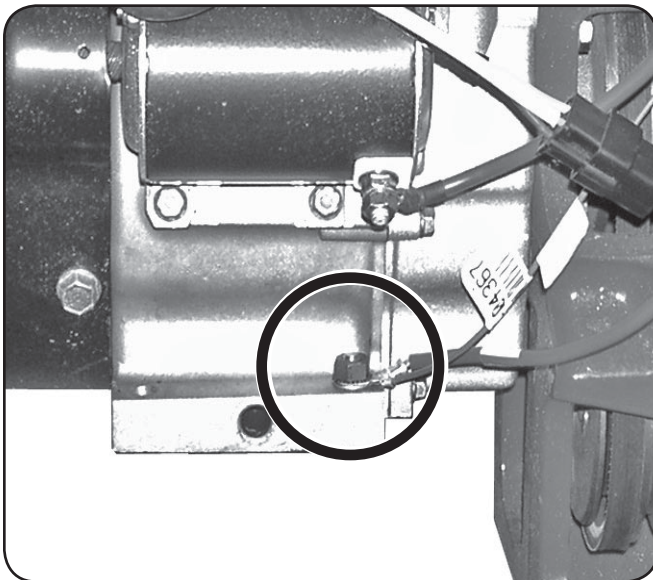

Figure 3-3
1. Ground the green (and red for electric start tillers) wire(s) to the engine block. See Fig. 3-3.